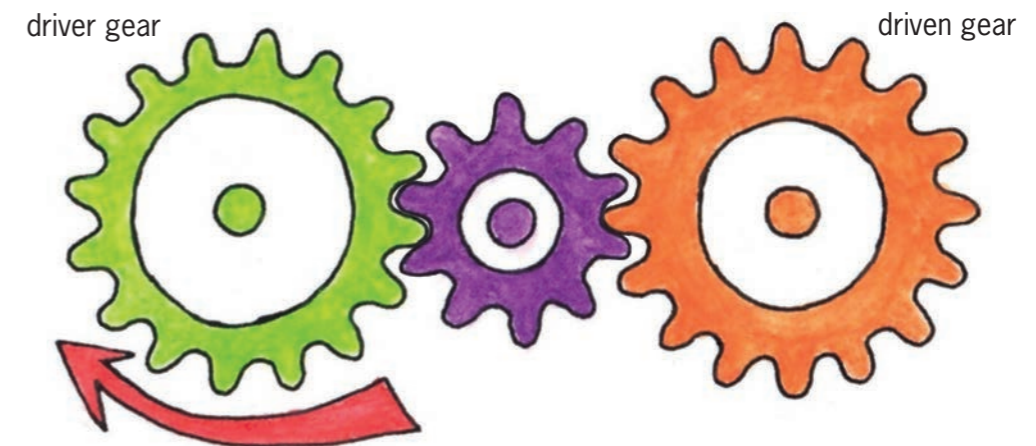

Figure 21
1. Look at the system of gears in Figure 21. If the gear on the left is the driver gear, will the driven gear turn faster or slower than the driver, or will it turn at the same speed?
When an idler gear is smaller than the other gears, as for example in Figure 21, then it is made of harder material than the other gears. This is because the idler gear will rotate more times than the other gears. Every time a gear turns, the metal rubs against the metal of the other gears, and a little bit of the metal rubs away. Have a look at the soles of your shoes. The same thing happens to them.